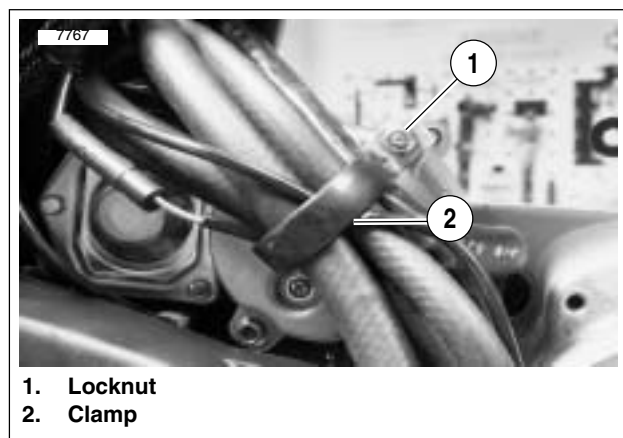

Figure 5-9. Oil Hose Clamp
5. See Figure 5-9. Remove locknut and clamp that secure oil hoses on right side of motorcycle.